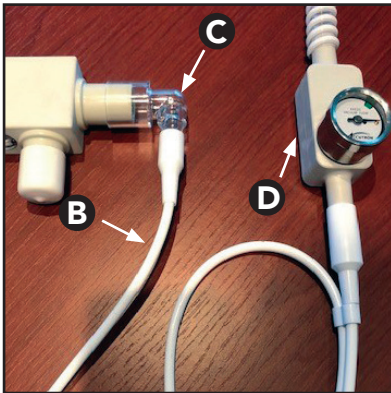

Figure 8
**In-line:** Connect the Axess In-line Circuit per Figure 8. Note: the vacuum connection must be made on the gauge side.